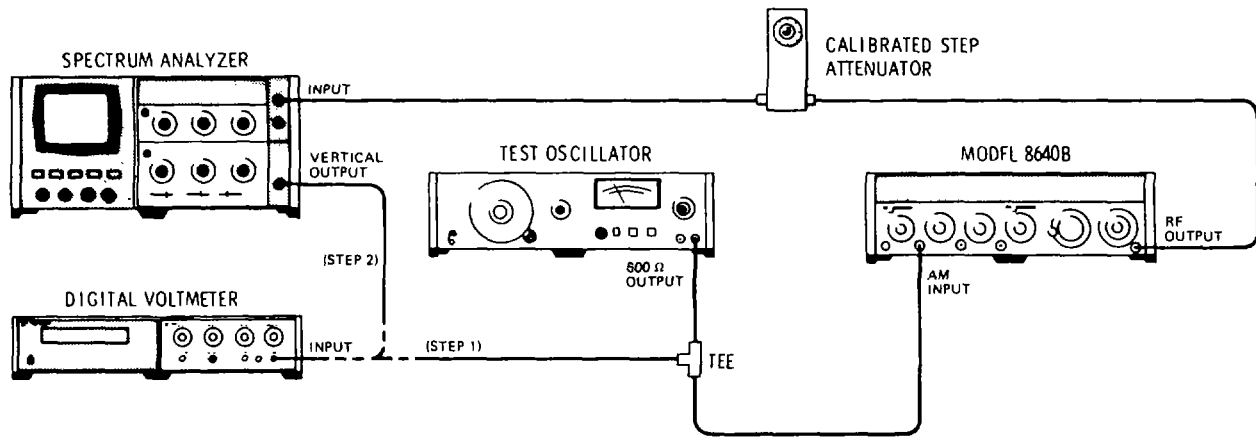

Figure 4-20. AM Sensitivity and Accuracy Test Setup.
1. Connect equipment as shown in Figure 4-20 after setting Signal Generator's controls as follows: